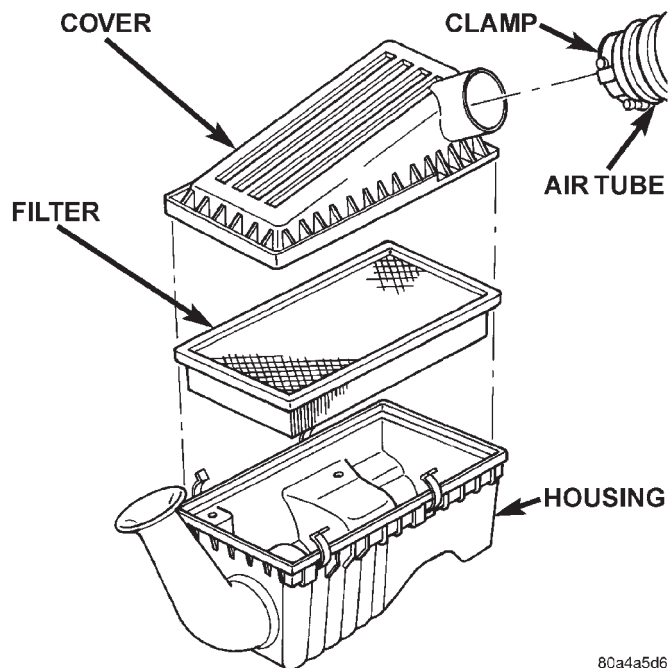

Fig. 47 Air Cleaner Element
- (1) Loosen air tube clamp at housing cover (Fig. 47).
- (2) Disconnect air tube at cover.
- (3) Pry back the clips retaining air cleaner cover to air cleaner housing.
- (4) Lift cover up to expose air cleaner element.
- (5) Remove air cleaner element.
- (6) Clean inside of air cleaner housing and its cover before installing new element.